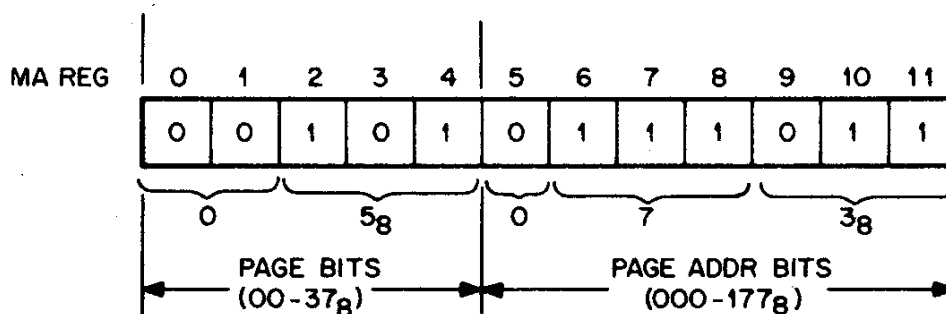

Figure 4-2 Format Establishing Memory Page
The format of the Central Processor (CPMA) Memory Address Register establishing the memory page must first be considered. The MA register is an unequally divided 12-bit register in which the least significant bits of the MA (bits 5-11) are called the page address bits and the most significant bits (bits 0-4) are called the page bits. The 12 bits of the Memory Address are established by the program counter (PC) and are re-established each time the PC loads an absolute address for the next instruction. Bits 0-4 are used to establish the memory page as shown in Figure 4-2. Because the pages to be addressed include pages 0-37 (octal), only five bits are required. The first two bits represent numbers from 0 to 3 and the next three represent numbers from 0 to 7. Because the locations to be addressed on any given page include locations 0-177 (octal), only seven bits are required to specify any one location. Bit 5 represents an octal 1 or 0; bits 6, 7, and 8 represent the second octal digit from 0 to 7; bits 9, 10, and 11 represent the last octal digit from 0 to 7. Thus, on the example shown in Figure 4-2, the MA register is addressing page 5, location 73 (absolute address 1273).